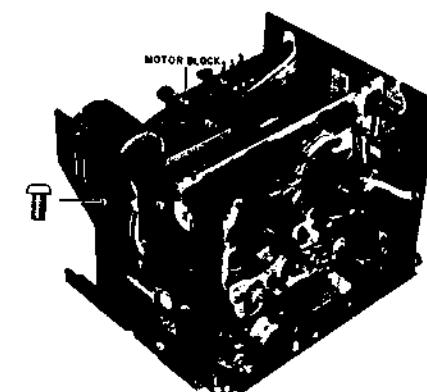

Fig. 3-6
- 2) Remove the MOTOR BLOCK securing screw from the left side panel of the mechanism block. (Refer to Fig. 3-6)